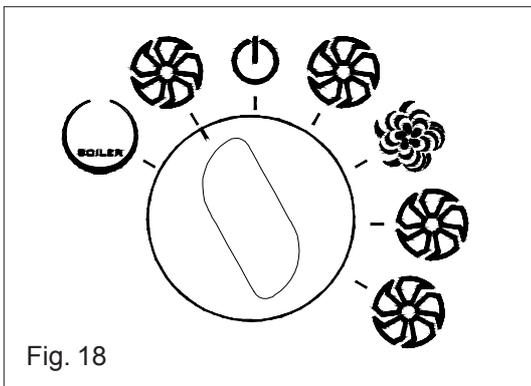

Fig. 18
- Turn the knob to the position shown in Fig. 18.